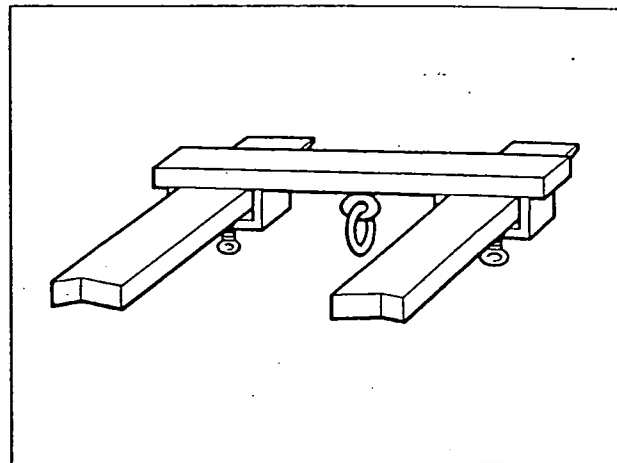

Fig. 7 Fork lifting attachment
- If a fork lift is used to lift using the lifting brackets, a suitable lifting attachment must be used to prevent the chains slipping off the forks (see Fig. 7).